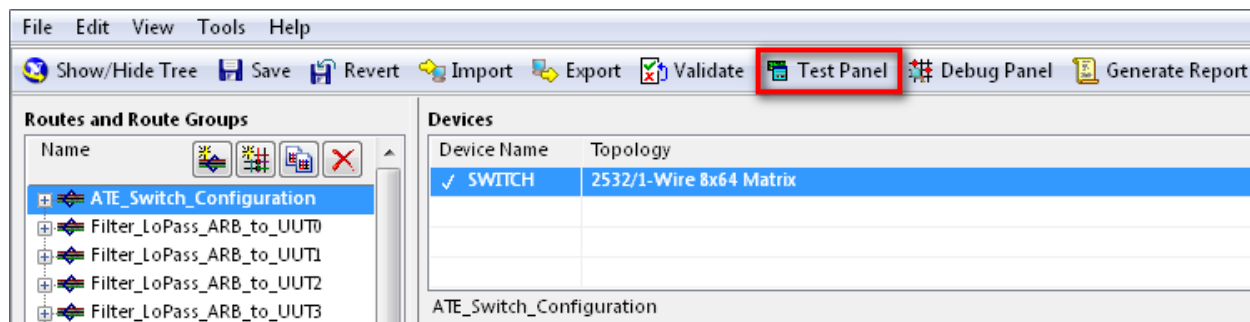

Figure 1-3. Accessing the Switch Executive Test Panel
4. To use the selected route group, click the **Test Panel...** button in the toolbar, as shown in Figure 1-3.